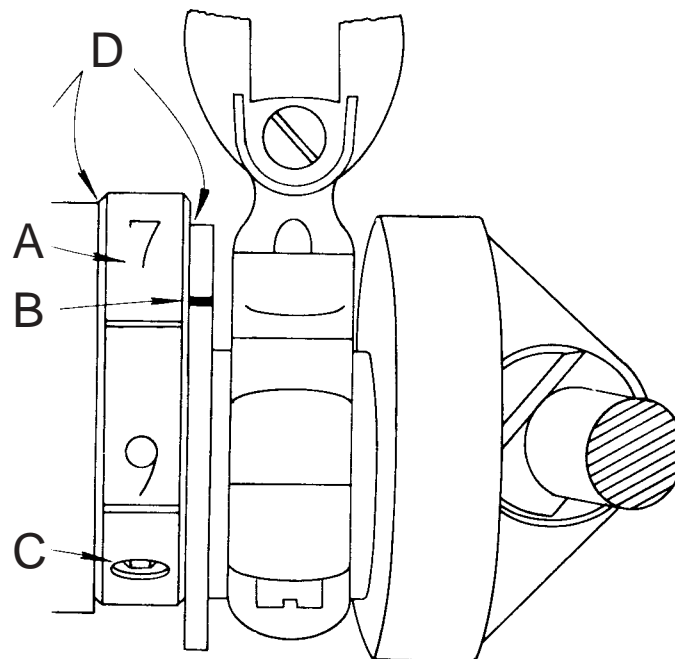

FIGURE 5
3. The numbered disc (*item "A" in Figure 5*) is called the stitch regulating collar. The position of this collar with respect to a notch on the rim of the feed eccentric (*item "B" in Figure 5*) determines the length of stitch. Before changing the length of the stitch, note the original setting of the notch with respect to the stitch regulating collar.
4. Loosen the screw (*item "C" in Figure 5*) which locks the stitch regulating collar in position. Insert a screwdriver blade in the split on the stitch regulating collar which will be found directly beneath the locking screw. While holding the screwdriver firmly in position, move the handwheel until the notch on the rim of the feed eccentric is lined up with the desired number on the stitch regulating collar. To increase the length of stitch from the original setting, move the notch to a higher number. To decrease the length of stitch from the original setting, move the notch to a lower number.
7. After completing the adjustment, thoroughly oil the feed lever and eccentric, particularly in the area indicated by “D” in **Figure 5**; and replace the side cover.